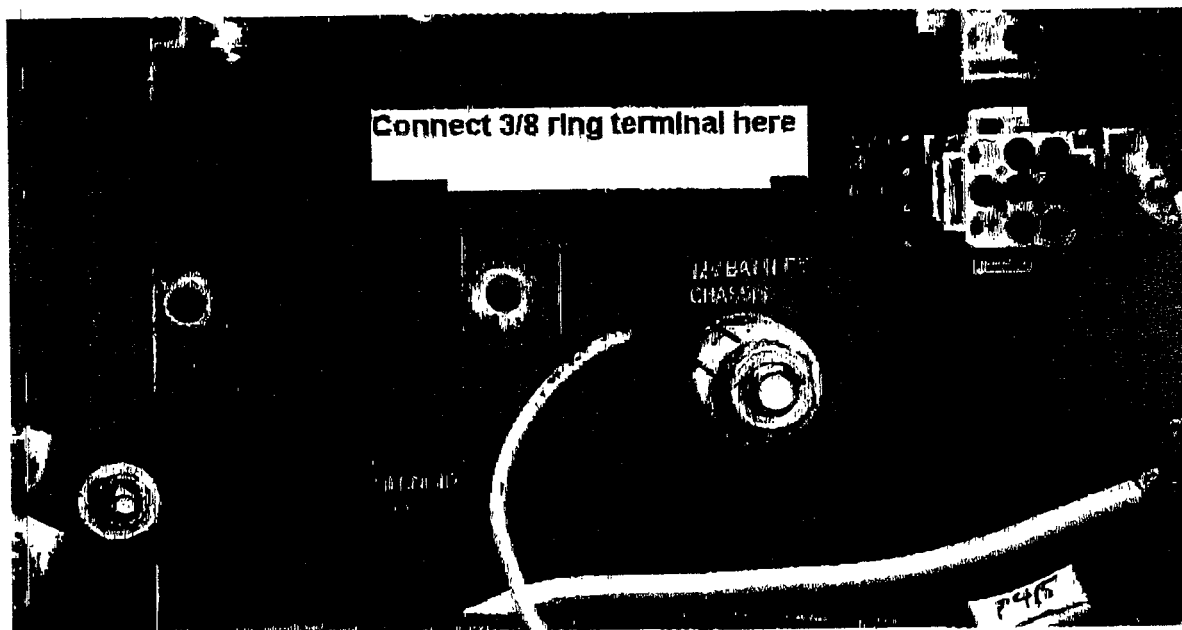

Fig. 1
11. Connect the 3/8" ring terminal to the 12volt lug as shown in figure 1.